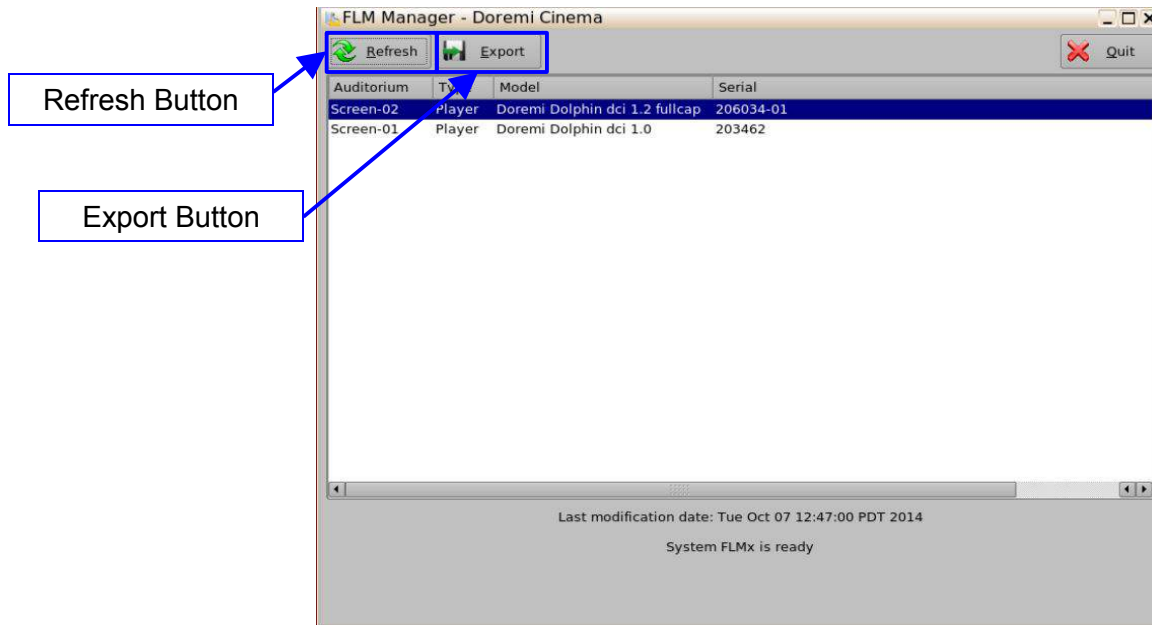

Figure 118: FLM Manager Window
- The user can also click the Refresh button to force the TMS to check if it is required to generate a new FLMx report (Figure 118).
- Click on the Export button (Figure 118).